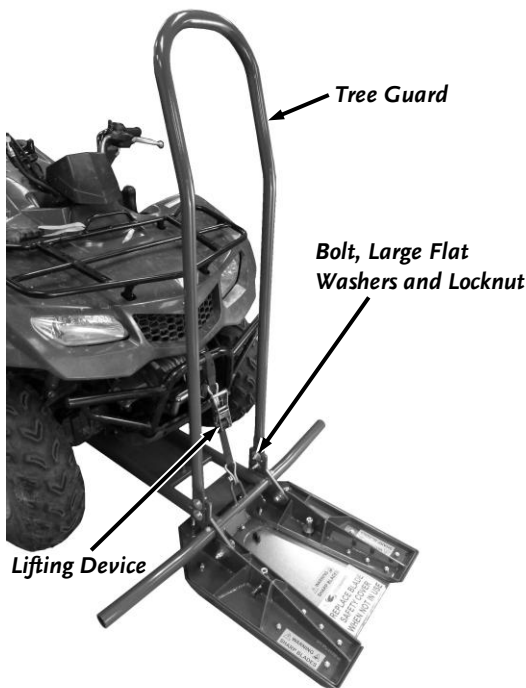

Figure 16
16. Attach the Tree Guard to Chassis with four 3/8-16 X 1-1/2" bolts, eight Fender Washers (one on the Bolt side and one on the Locknut side) and four 3/8-16 Locknuts using two 9/16" Wrenches (Figure 16).